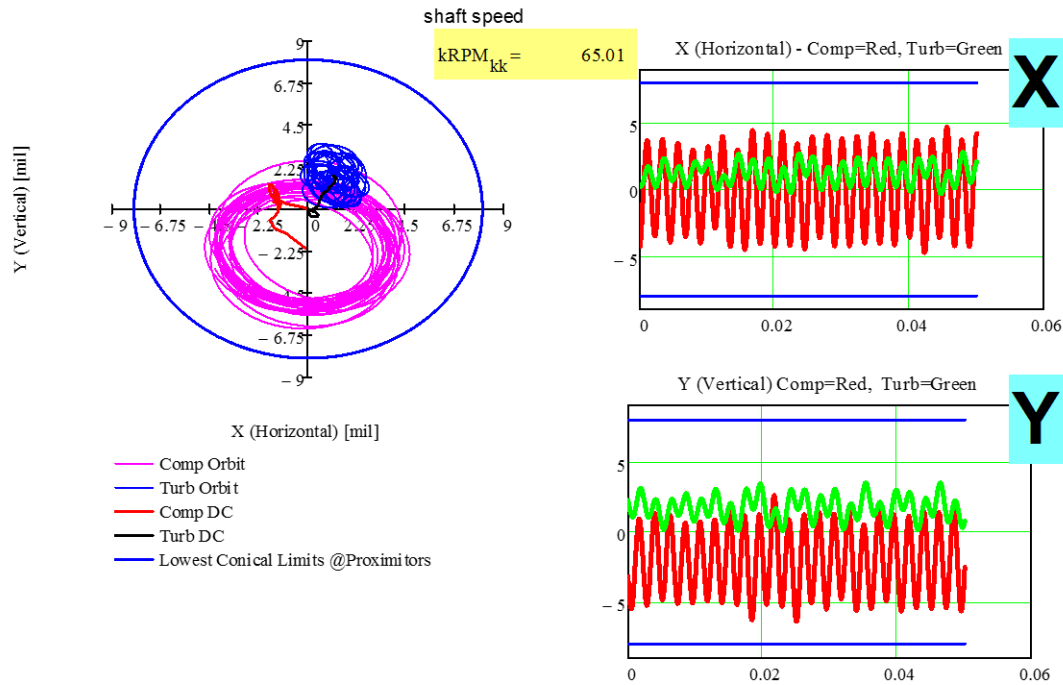

Fig. 4. Example: Orbital motion of TC rotor at C and T ends. Shaft speed=65 krpm (1083 Hz).
- D) Shaft orbits (Y vs X) vs shaft speed RPM. The clearance circle (max amplitude motion = 8 mil). – Make a video and explain what you see. [You will have to use first take the DFT of a signal, then set=0 components of frequency (say) above 2.0 kHz, and calculate the Inverse DFT to produce a new time signal not affected by electrical noise from probes] –See figure 4.